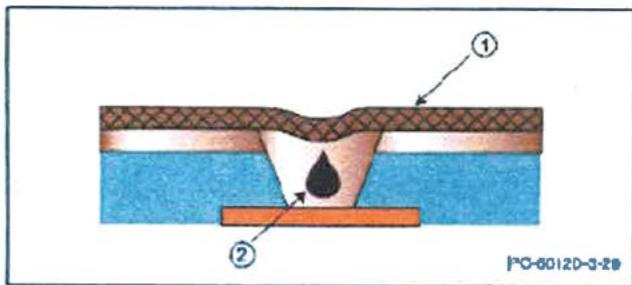
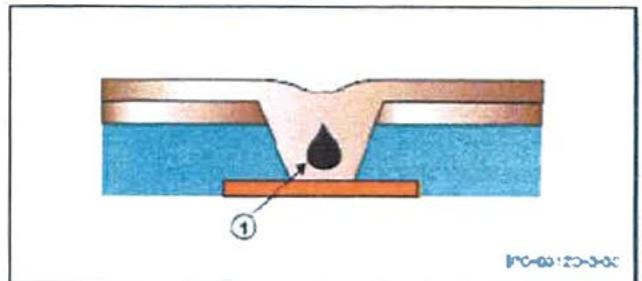
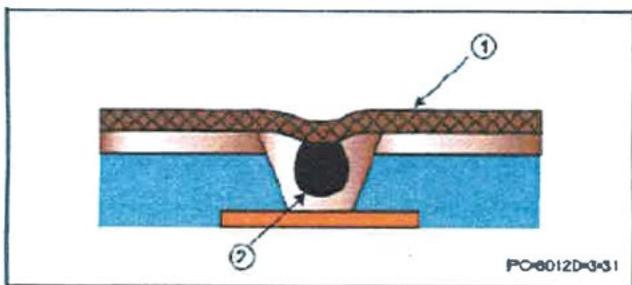
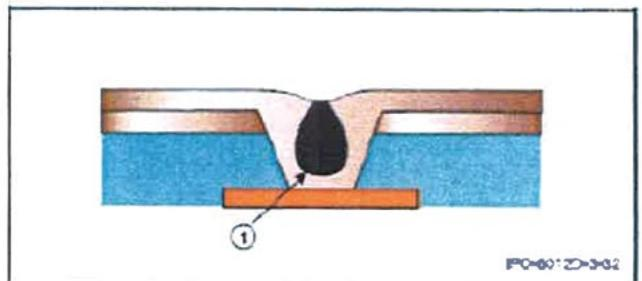

Figure 3-29 Example of Acceptable Voiding in a Cap Plated Copper Filled Microvia
Figure 3-30 Example of Acceptable Voiding in a Copper Filled Microvia Without Cap Plated
Figure 3-31 Example of Nonconforming Void in a Cap Plated Copper Filled Microvia
Figure 3-32 Example of Nonconforming Void in a copper filled Microvia
**3.6.2.11.3 Plated Copper Filled Microvias** Microvias shall be completely filled with copper except that voids will be acceptable provided they are completely encapsulated and in total do not exceed 25% of the viewable area of the filled microvias shown in figure 3-29 and figure 3-30. Voids not fully encapsulated within these limits are not acceptable as shown in figures 3-31 and figure 3-32.